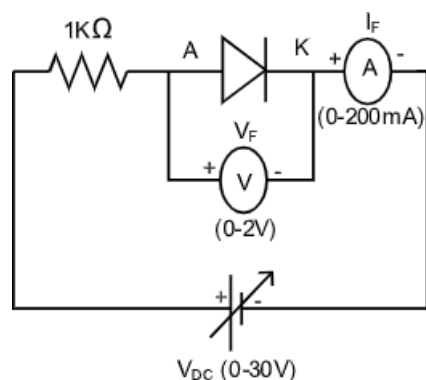

Fig 1.1.1. Forward Bias P-N Junction diode
1.1 Determine the V-I characteristics of forward Bias and Reverse Bias P-N junction diode as shown in fig 1.1.1 and 1.1.2 and draw the V-I Characteristics.